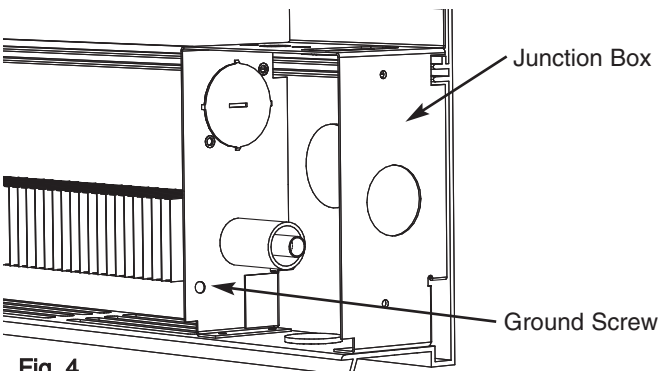

Fig. 4
9. Following the wiring diagram secured to the heater, make electrical connections. Ground the heater using the ground screw provided. See Fig. 4.